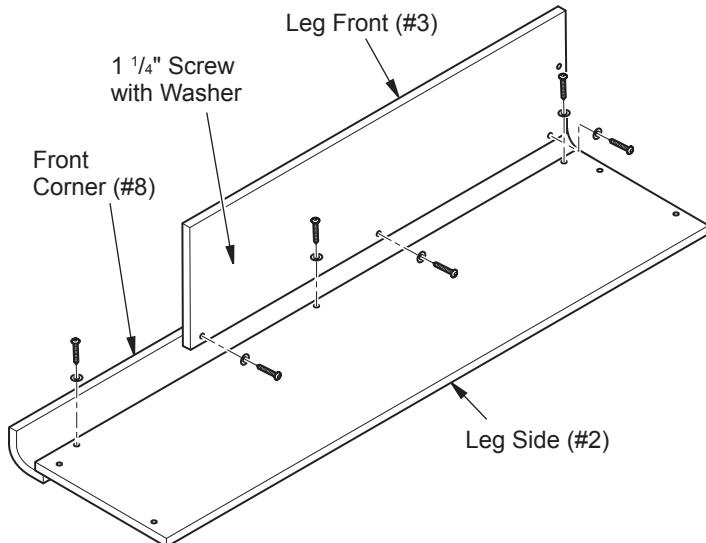

Figure 1 - Leg Assemblies (right side shown)
1. Lay right side panel (#2) face down on a soft surface to avoid marking finish. Attach right front corner (#8) to side panel with three $1\frac{1}{4}$ " screws with washers as shown in Figure 1. Attach leg front (#3) to front corner (#8) with three $1\frac{1}{4}$ " screws with washers as shown in Figure 1.